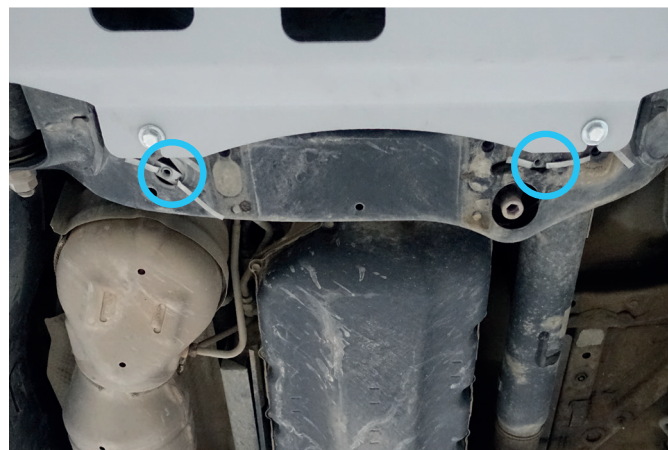

Fig. 8
8. Instal insert nut M8x65 (item B), in frame rail as shown in fig.8.